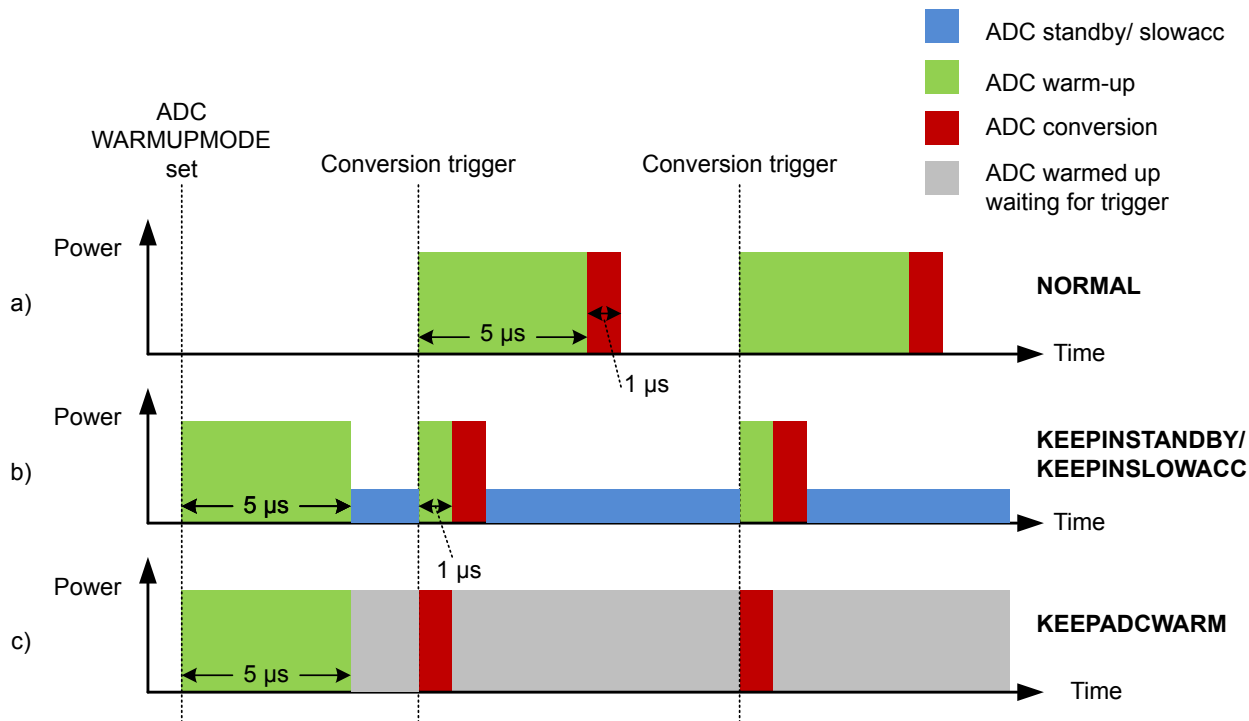

Figure 27.4. ADC Analog Power Consumption With Different WARMUPMODE Settings
Normally, the ADC will be warmed up only when samples are requested and is shut off when there are no more samples waiting. However, if lower latency is needed, configuring the WARMUPMODE field in ADCn_CTRL allows the ADC and/or reference to stay warm between samples, reducing the warm-up time or eliminating it altogether. Figure 27.4 ADC Analog Power Consumption With Different WARMUPMODE Settings on page 891 shows the effects on analog power consumption in scenarios using different WARMUPMODE settings.
- **NORMAL:** This is the lowest power option for general-purpose use and low sampling rates (below 35 ksps). The ADC and references are shut off when there are no samples waiting. The ADC does not consume any power when it is shut down. A 5 μ s warmup time will be initiated prior to every conversion. Figure a in Figure 27.4 ADC Analog Power Consumption With Different WARMUPMODE Settings on page 891 shows this mode.
- **KEEPINSTANDBY:** This mode is suitable for infrequent sampling of lower impedance inputs, and is the lowest power option for sampling rates between about 35 and 125 ksps. It may also be useful for lower sampling rates where latency is important. The reference selected for scan mode is kept warm, but the ADC is powered down. The ADC will initiate a 1 μ s warmup period before a conversion begins. Because the reference is kept warm, the ADC will consume a small amount of standby current when it is not converting. Figure b in Figure 27.4 ADC Analog Power Consumption With Different WARMUPMODE Settings on page 891 shows this mode.
- **KEEPADCWARM:** This mode provides the lowest latency and allows for maximum sampling rates. The ADC and reference circuitry remain powered on even when conversions are not in progress. Figure c in Figure 27.4 ADC Analog Power Consumption With Different WARMUPMODE Settings on page 891 shows this mode. This mode consumes the most power, but as soon as a trigger event occurs, the acquisition and conversion begin with no warm-up time. Note that if KEEPADCWARM mode is set and HFXO is selected as the ADC clock source, the HFXO will remain on in EM2.